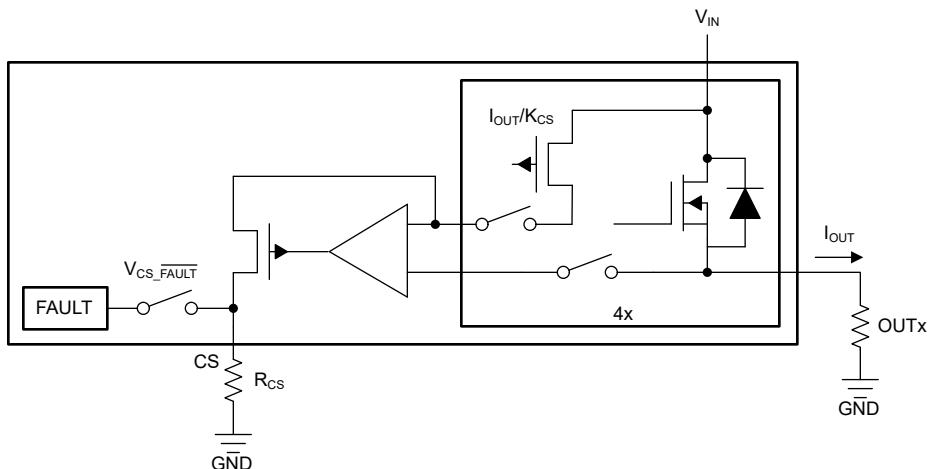

図 8-2. Current-Sense Block Diagram
K_{CS} is the ratio of the output current and the sense current (CS). It is a constant value across the temperature and supply voltage (IN). Each device is calibrated accurately during production, so post-calibration is not required. See 図 8-2 for more details.